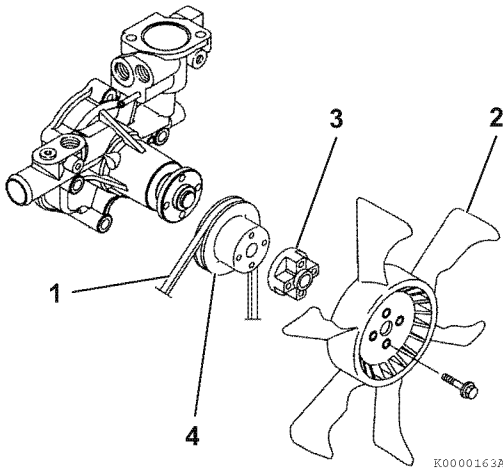

Figure 7-12
2. Remove the engine cooling fan guard (if equipped), engine cooling fan (Figure 7-12, (2)), spacer (Figure 7-12, (3)) if equipped, V-pulley (Figure 7-12, (4)) and cooling fan V-belt (Figure 7-12, (1)).